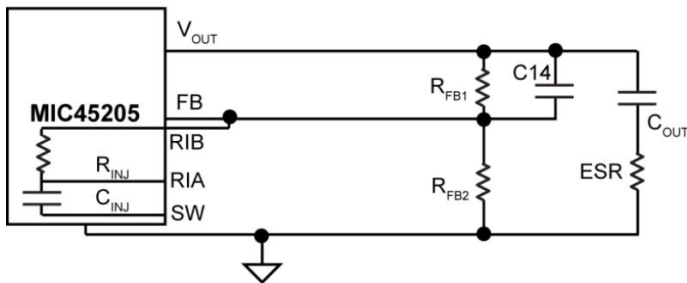

Figure 10. Internal Ripple Injection at FB via RIB Pin
2. Virtually no or inadequate ripple at the FB pin voltage due to the very-low ESR of the output capacitors, such is the case with ceramic output capacitor. In this case, the  $V_{FB}$  ripple waveform needs to be generated by injecting suitable signal. MIC45205 has provisions to enable an internal series RC injection network,  $R_{INJ}$  and  $C_{INJ}$  as shown in Figure 10 by connecting RIB to FB pin. This network injects a square-wave current waveform into FB pin, which by means of integration across the capacitor ( $C_{14}$ ) generates an appropriate sawtooth FB ripple waveform.